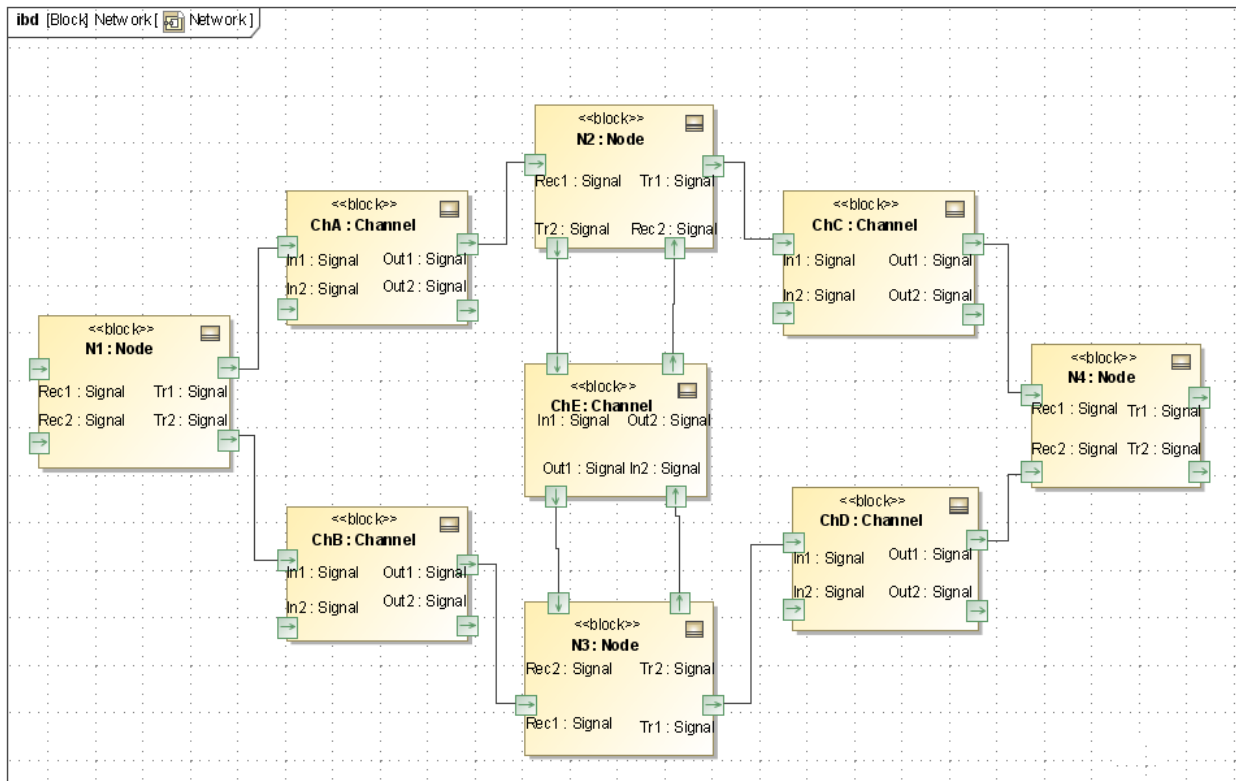

Figure 5.6 CommNetwork Internal Block Diagram
- i. Each channel has four flowports, two for input message traffic and two for output (see Channel blocks in Figure 5.6). To create a flowport
- i. Drag all nine part properties in **Network** (four node and five channels) into the diagram and arrange as shown in Figure 5.6.
- ii. Click on each block and use the Display Ports icon on the floating toolbar (Figure 5.5a) to show the ports. Arrange the ports as shown in Figure 5.6.
- iii. Click on a port and use the Connector icon on the floating toolbar (Figure 5.5b) to create a connector, which can be dragged to the matching port on another block. Arrange the connectors as shown in Figure 5.6.